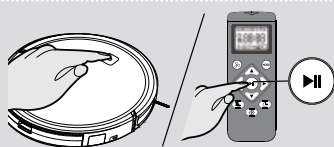

Fig. 10
2. Press the on/ standby button on the device or the start/ pause button on the remote control to start the cleaning process. **[Fig. 10]**